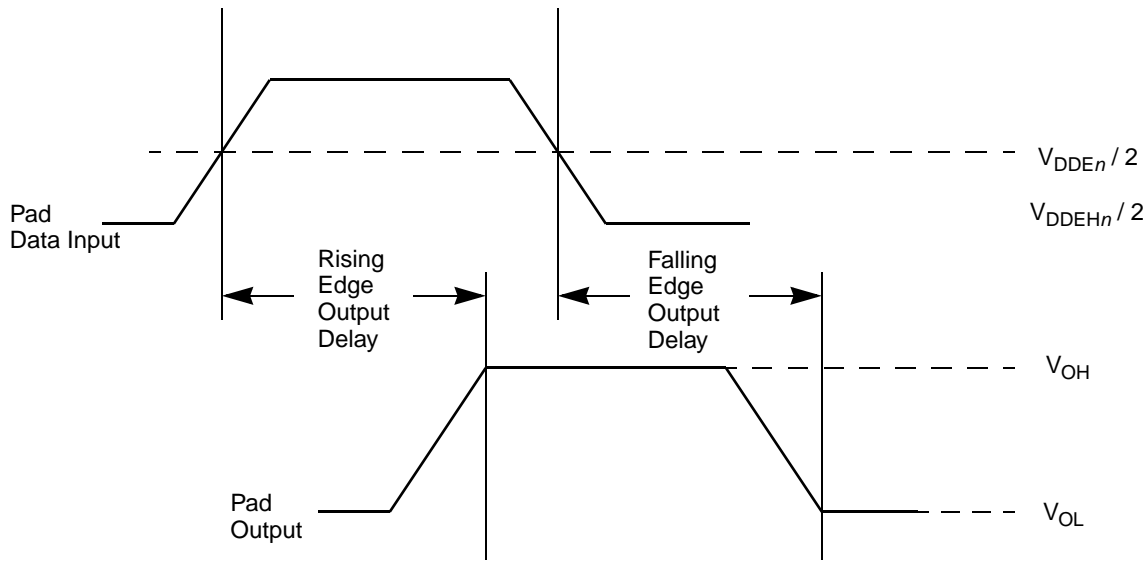

Figure 17. Pad Output Delay
⁵ Out delay is shown in Figure 17. Add a maximum of one system clock to the output delay for delay with respect to system clock.
⁶ Out delay is shown in Figure 17. Add a maximum of one system clock to the output delay for delay with respect to system clock.
- ⁵ Out delay is shown in Figure 17. Add a maximum of one system clock to the output delay for delay with respect to system clock.